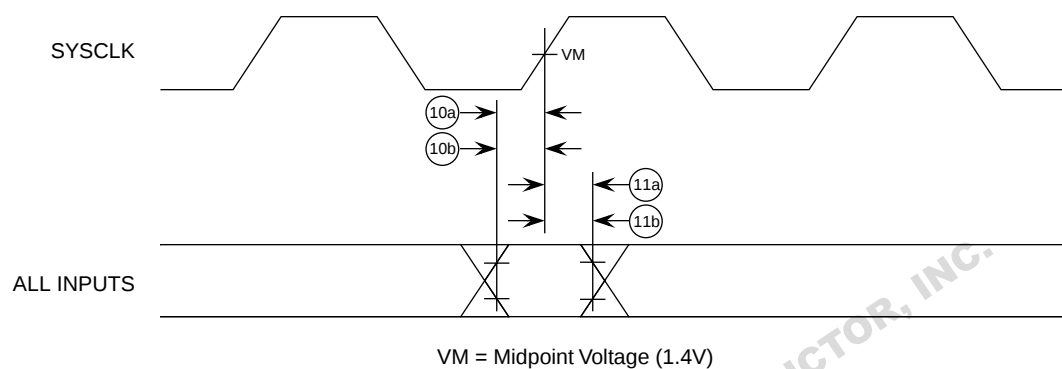
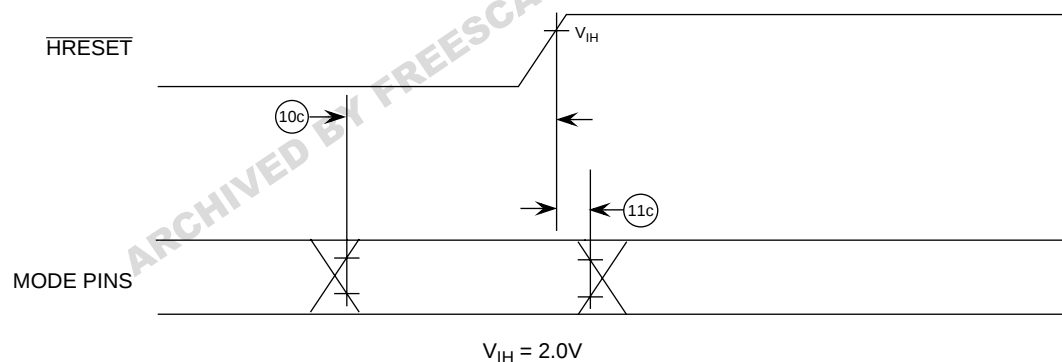

Figure 4. Input Timing Diagram
Figure 5. Mode Select Input Timing Diagram
Table 9 provides the 60x bus input AC timing specifications for the MPC750 as defined in Figure 4 and Figure 5. Input timing specifications for the L2 bus are provided in Section 1.4.2.5, "L2 Bus Input AC Specifications."
4. The setup and hold time is with respect to the rising edge of HRESET (see Figure 5).
Figure 4 provides the input timing diagram for the MPC750.
Figure 5 provides the mode select input timing diagram for the MPC750.